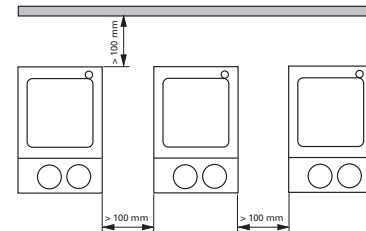

Fig. 3
- Observe the minimum distances between the devices, between the device and the wall and above the assembly (min. 800 mm), see fig. 3.